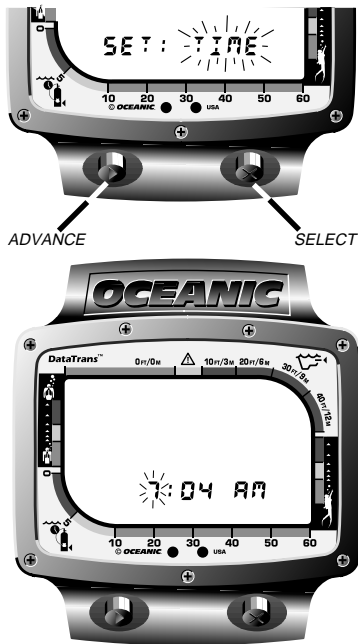

Fig. 12 - Time of Day Setting
4. Press the Select button to select the Time setting. Time of day will appear, with the first digit flashing (Fig. 12).